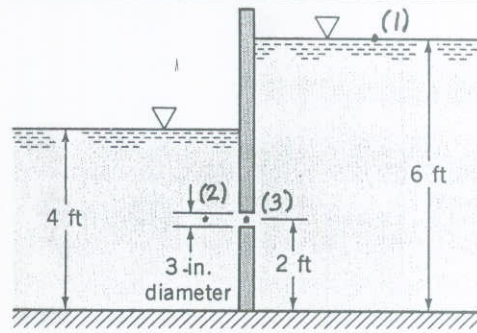

FIGURE P3.86
3.86 Determine the flowrate through the submerged orifice shown in Fig. P3.86 if the contraction coefficient is  $C_c = 0.63$ .